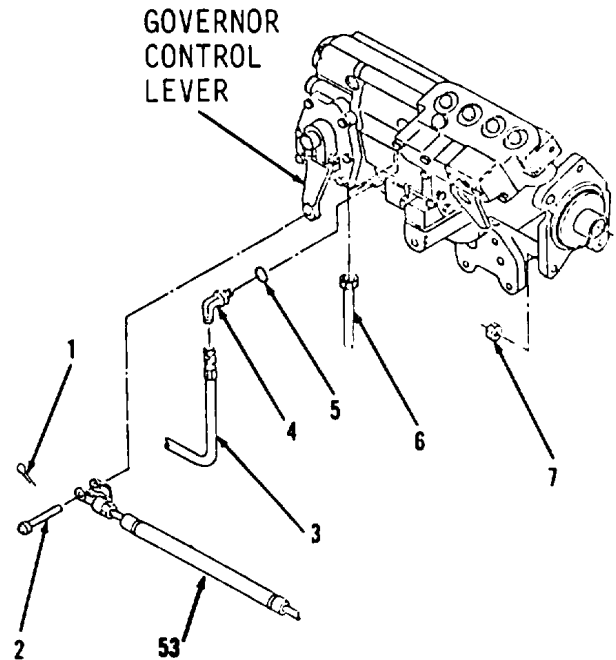

Figure 3-84.
6. Install three nuts (7, Figure 3-84).